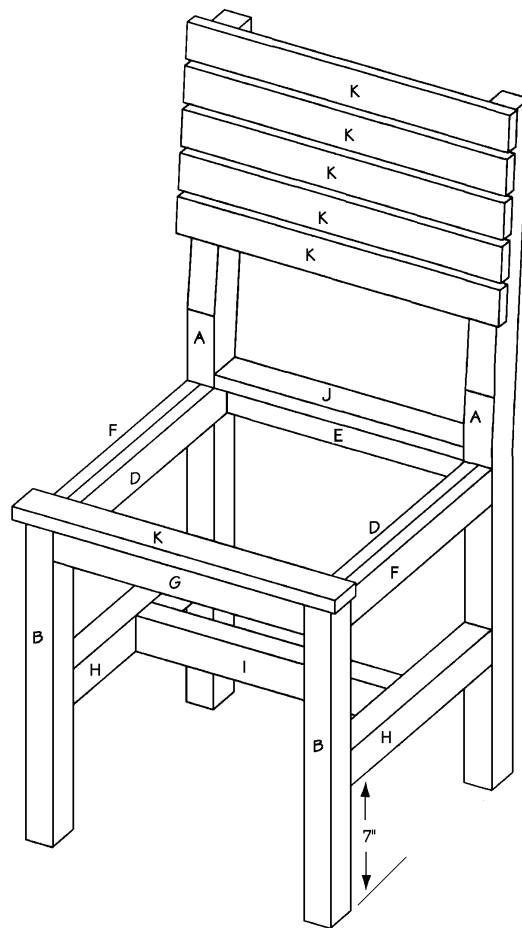

Figure 7
1. Cut two side spacers (F) from $\frac{3}{4}$ " x 2" ripped pine, each measuring 13-1/2 inches long.
2. Fit one side spacer (F) face-to-face on the outside of the side rail (D), between the back leg (A) and the front leg (B) as shown in *Figure 7*. Apply glue to the meeting surfaces, and screw through the side rail (D) into the side spacer (F) using three 1-1/4-inch-long screws.
3. Repeat Step 2 to attach the remaining side spacer (F) to the opposite side rail (D).
4. Cut one front spacer (G) from $\frac{3}{4}$ " x 2" ripped pine, measuring 14 inches long.
5. Fit the front spacer (G) face-to-face on the outside of the front rail (C) as shown in *Figure 7*. Apply glue to the meeting surfaces and screw through the front rail (C) into the front spacer (G) using three 1-1/4-inch-long screws.
1. Cut two side braces (H) from $\frac{1}{2}$ " x 2" ripped pine, each measuring 13-1/2 inches long.
2. Fit one side brace (H) between a front leg (B) and back leg (A), 7 inches from the bottom of each of the legs. Apply glue to the meeting surfaces, and screw through the front and back legs (A and B) into the ends of the side braces (H) using a 3-inch-long screw on each joint.
3. Repeat Step 2 to attach the second side brace (H) between the remaining front and back legs (A and B).
4. Cut one middle brace (I) from 1-1/2" x 2" ripped pine, measuring 14 inches long.
5. Apply glue to the meeting edges, and attach the middle brace (I) between the two side braces, centered on the side braces (H) as shown in *Figure 7*. Screw through the side braces (H) into the ends of the middle brace (I) using a 3-inch-long screw.
1. Cut one short slat (J) from $\frac{3}{4}$ " x 2" ripped material, measuring 14 inches long.
2. Fit the short slat (J), wide surface up, on top of the back rail (E), between the two back legs (A) as shown in *Figure 7*. Apply glue to the meeting surfaces, and nail through the short slat (J) into the back rail (E), using three 1-1/4-inch nails.
3. Cut 12 long slats (K) from $\frac{3}{4}$ " x 2" ripped pine, each measuring 18 inches long.
4. Attach the first long slat at the chair front, overhanging the front spacer (G) and each front leg (B) by $\frac{1}{2}$ inch, as shown in *Figure 7*. Apply glue to the meeting surfaces and nail through the long slat (K) into the front legs (B) and the front rail (C). Use two 1-1/4" nails on each front leg and four 1-1/4" nail on the front rail (C).
5. Attach the second long slat (K) at the back of the seat, 3/8" from the back legs (A) and overhanging the side spacers (F) by $\frac{1}{2}$ inch. Apply glue to the meeting surfaces and nail through the long slat (K) into the side rails (D). Use two 1-1/4" nails on each joint.
6. Repeat the procedure to attach 5 more long slats (K) to the chair seat, spacing them approximately 3/8-inch apart.
7. The remaining 5 long slats (K) are used for the chair back. Attach the first long slat (K) 1/2-inch higher than the top of the back legs (A) with equal overlap on both sides, as shown in *Figure 7*. Nail through the long slats (K) into the back legs (A). Use two 1-1/4-inch-long nails on each joint.
8. Attach the remaining 4 long slats (K) below the first one, spacing them approximately 3/8-inch apart as shown in *Figure 7*.